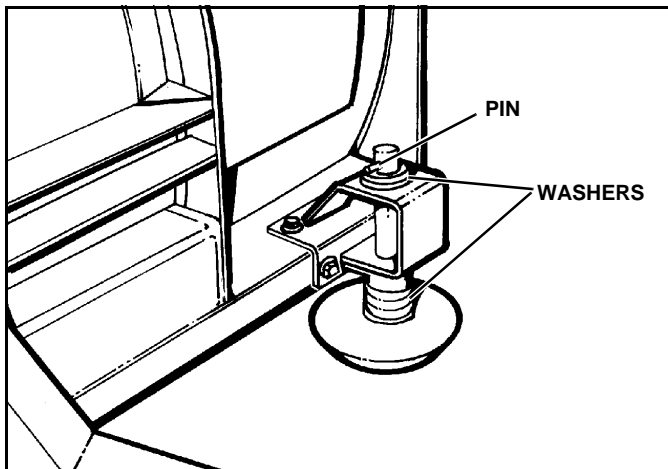

Figure 2-6
14. Adjust each Disk Shoe assembly by removing Disk Shoe mounting Pin and adding or subtracting Washers on the top or bottom of the Disk Shoe Mounting Bracket as required according to measurements taken in step #11 (See Figure 2-6)